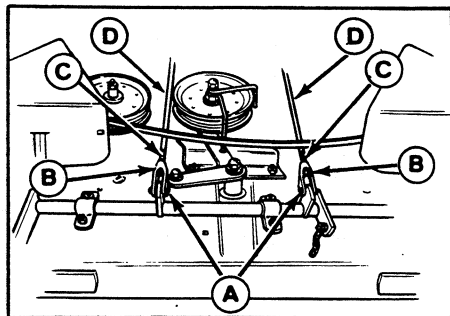

**Figure 37. Levelling Mower**
4. Measure the distance from the front tip of the center blade to the ground, and note that measurement. (See figure 37).
5. Measure the distance to the ground from the rear tips of the left and right blades. Compare these measurements with the measurement from the front tip of the center blade. The front tip of the center blade should be 1/4 inch (6 mm) higher than the rear tips of the side blades (figure 37).